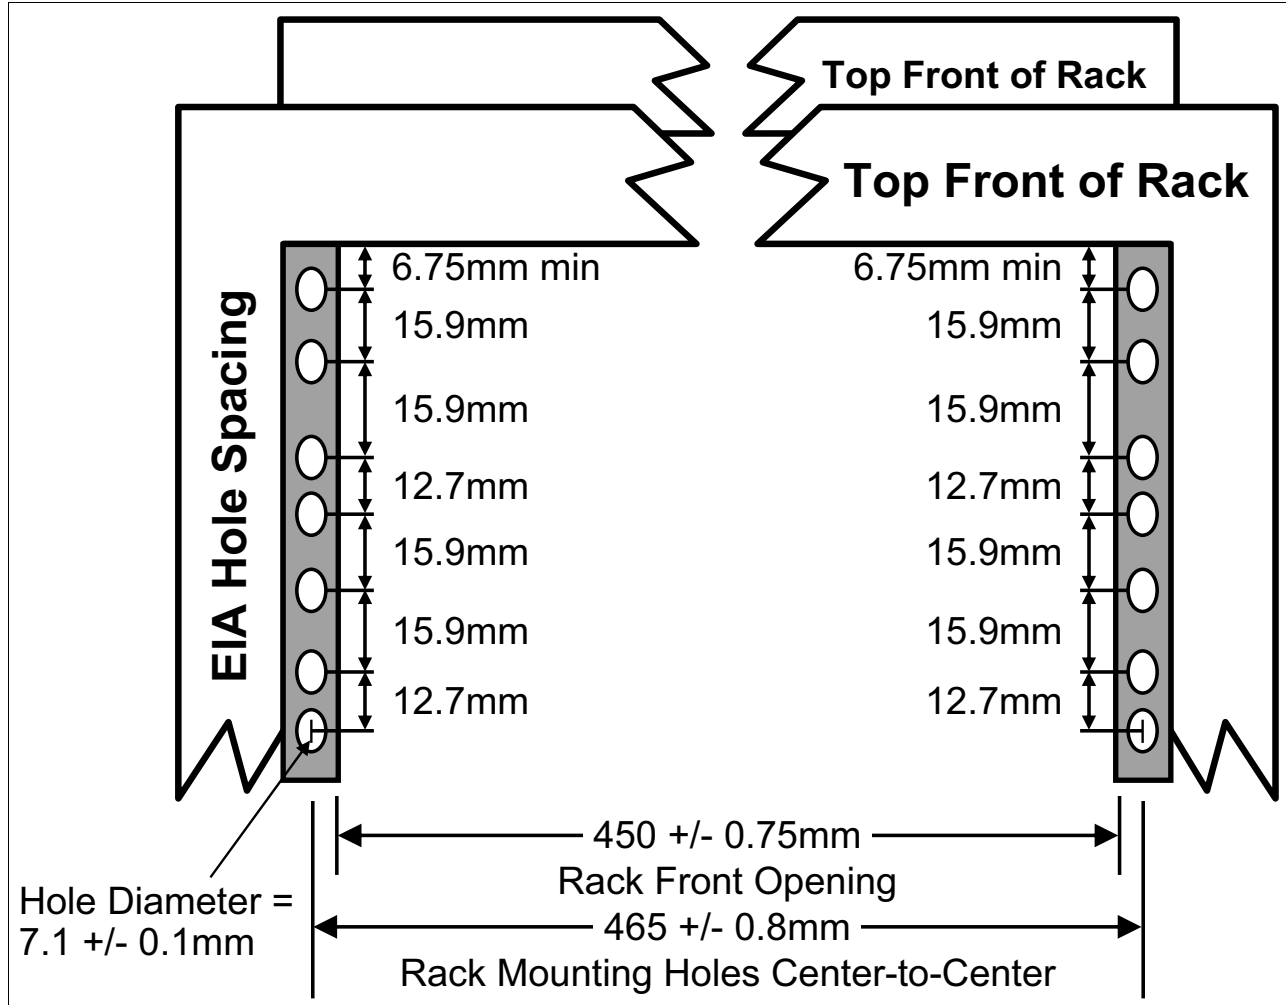

Figure A-5 Rack specification dimensions top front view
- The vertical distance between the mounting holes must consist of sets of three holes spaced (from bottom to top) 15.9 mm (0.625 in.), 15.9 mm (0.625 in.), and 12.67 mm (0.5 in.) on-center, which makes each three-hole set of vertical hole spacing 44.45 mm (1.75 in.) apart on center. Rail-mounting holes must be $7.1 \text{ mm} \pm 0.1 \text{ mm}$ ($0.28 \text{ in.} \pm 0.004 \text{ in.}$) in diameter. Figure A-5 shows the top front specification dimensions.